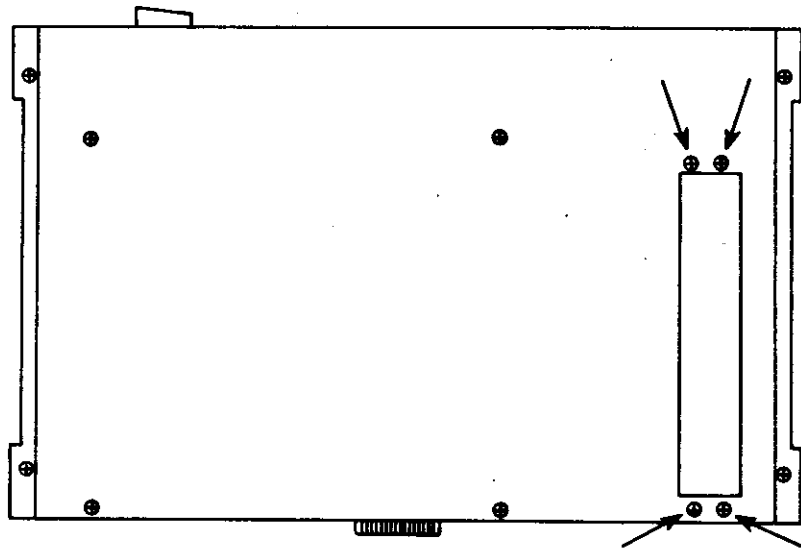

Figure 4-1: Power Supply Removal
The location of screws used to remove the power supply is identical for all chassis revisions. Figure 4-1 shows the Revision B chassis, but can also be used as reference for Revision A and Revision C power supply removal.
3. With the unit upside down, remove the four screws on either side of the power supply's ventilation grill (see Figure 4-1). The power supply will drop lightly onto the bench.
1. With the unit upside down, remove the four screws on the either side of the power supply's ventilation grill (see Figure 4-1). The power supply will drop lightly onto the bench.